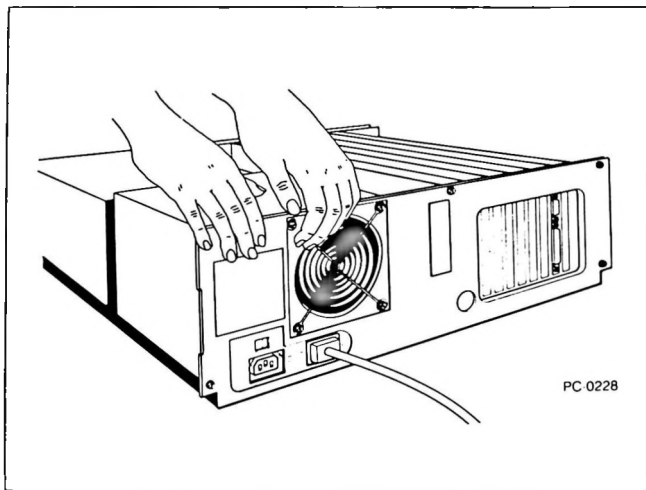

Figure A-1 *Removing static electricity from your hands*
- 1 Before touching any chips, remove the static electricity from your hands by touching the back or side panel of your computer. See Figure A-1.